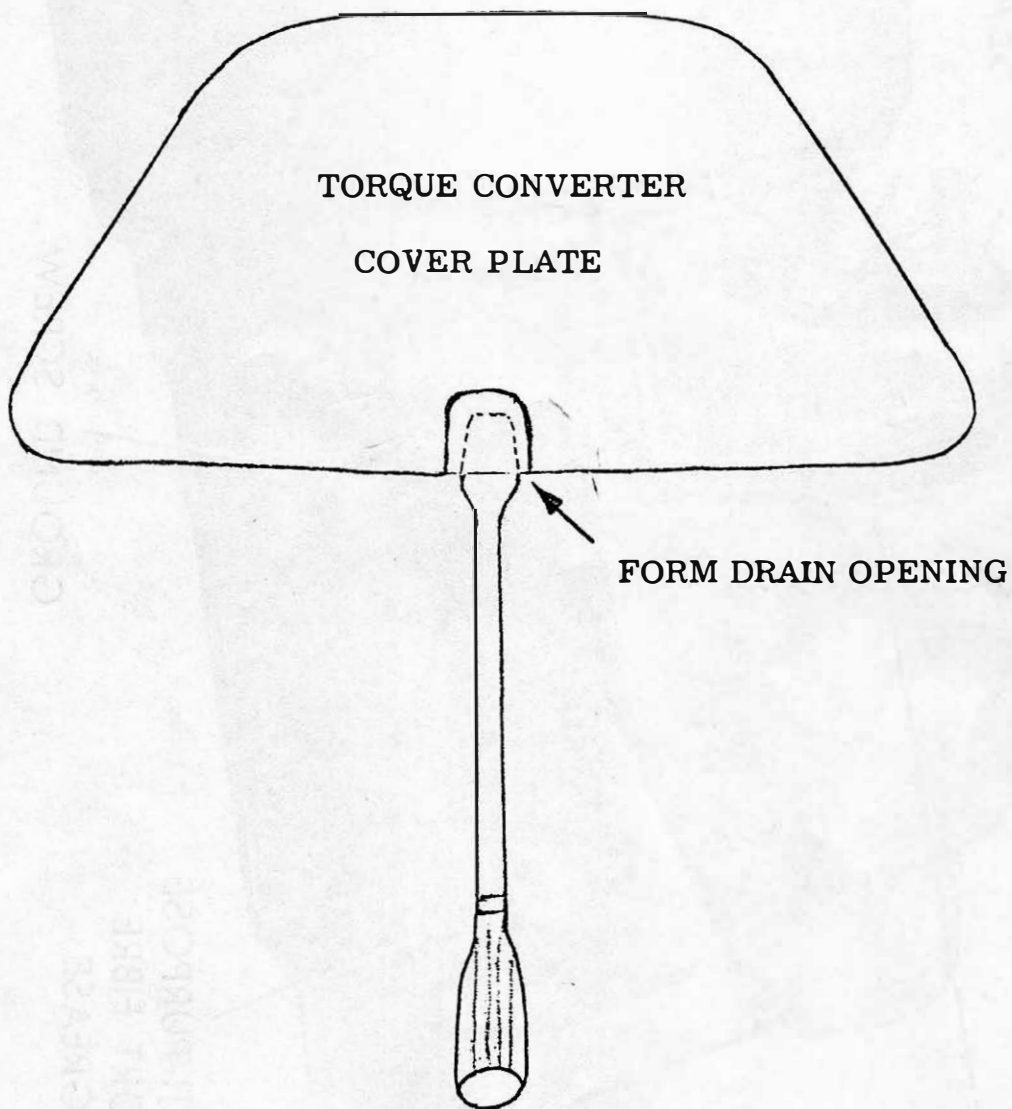

FIGURE 8
- (c) Using a suitable drift and hammer, form a drain slot around the screw driver blade using the screw driver blade as a die. Refer to Figure 8.